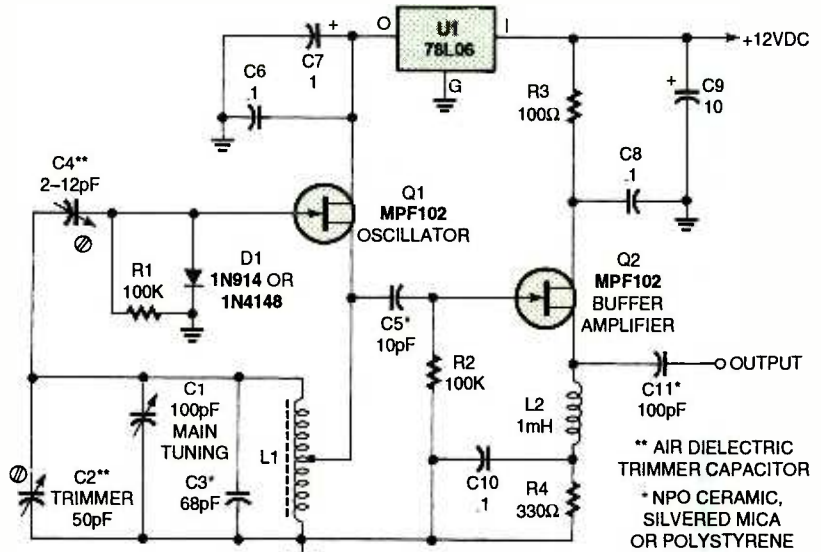

Fig. 4. This typical HF VFO circuit has several stability-enhancing features, including well-chosen capacitor types.
Afterward, connect all off-board components to the points shown in Fig. 4 using 3- to 4-inch lengths of insu-
Fig. 4. Begin construction by installing the fixed resistors and ceramic capacitors, followed by the RF choke and semiconductors. Take special care to avoiding overheating Q1.
**An Example.** Figure 4 shows a sample VFO circuit with several stability-
enhancing features. This circuit is a Hartley oscillator, as identified by the fact that the feedback to the JFET transistor (Q1) is supplied by a tap on the tuning inductance (L1). The position of the tap is usually between 10 and 35 percent of the total coil length. The exact position is sometimes a trade-off between stability and power output. Always opt for the stability unless it is absolutely impossible to provide a power boost (as needed) with a buffer amplifier. A buffer/amplifier is included in the Fig. 4 circuit, and it provides two basic functions: it boosts the low output power from the oscillator to a higher level, and it isolates the oscillator from changing load impedances.
The capacitors in Fig. 4 are selected according to the criteria discussed above. The main tuning capacitor (C1) is a 100-pF air-dielectric variable unit of heavy-duty double-bearing construction. The trimmer (C2) is used to set the exact frequency, especially when using a dial that must be calibrated. Note several of the fixed capacitors are indicated as NPO ceramic-disc, polystyrene, or silvered-mica (in order of preference).